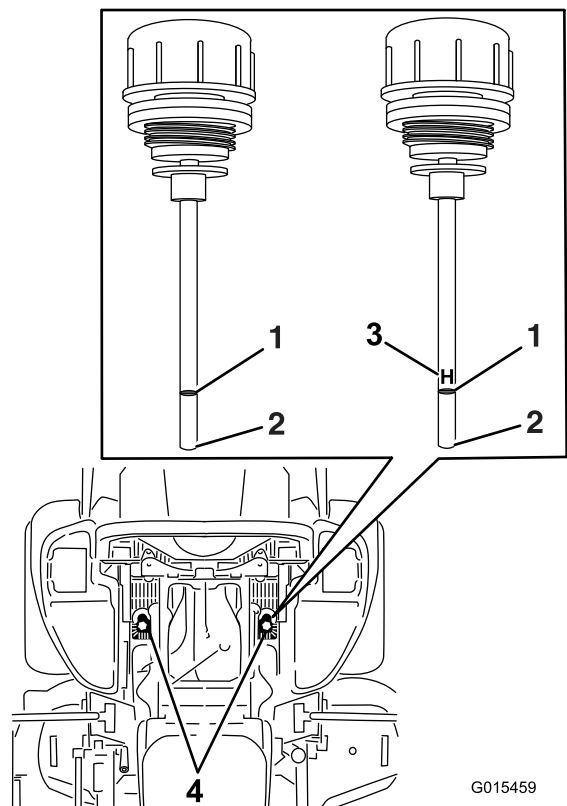

Figure 101
5. Clean the area around the dipsticks of hydraulic-system reservoirs (Figure 101).
6. Remove 1 dipstick from the hydraulic reservoir (Figure 101).
8. Remove the dipstick and look at the end (Figure 101).